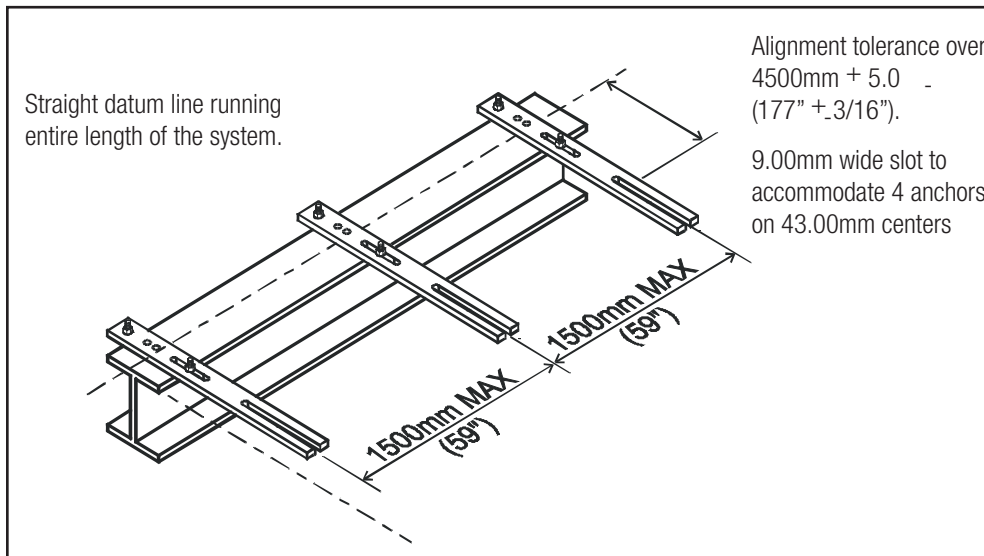

Figure 13-1
1. Locate and secure support brackets at the recommended spacing. See **Figure 13-1**.
2. Observe all alignment tolerances. See **Figure 13-1**.